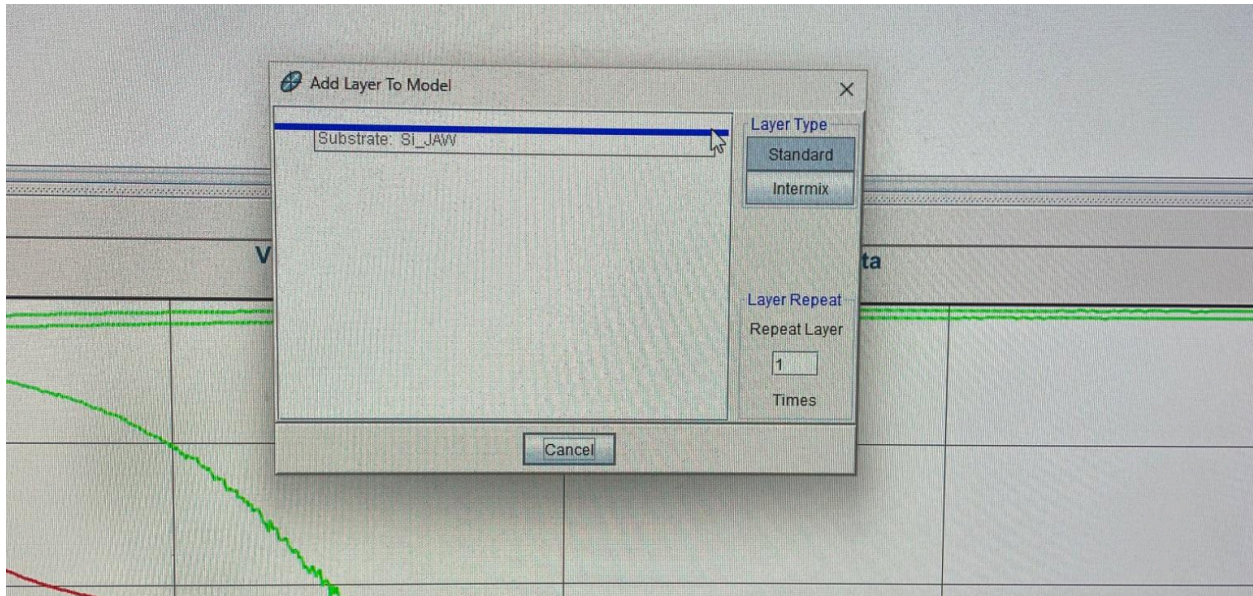

Figure 8: The blue line indicates where the new layer will be
- 8.2.6.1. There will be a diagram of the existing layers, and a blue line you can move around. The blue line indicates where the layer will be added. **See Figure 8.**